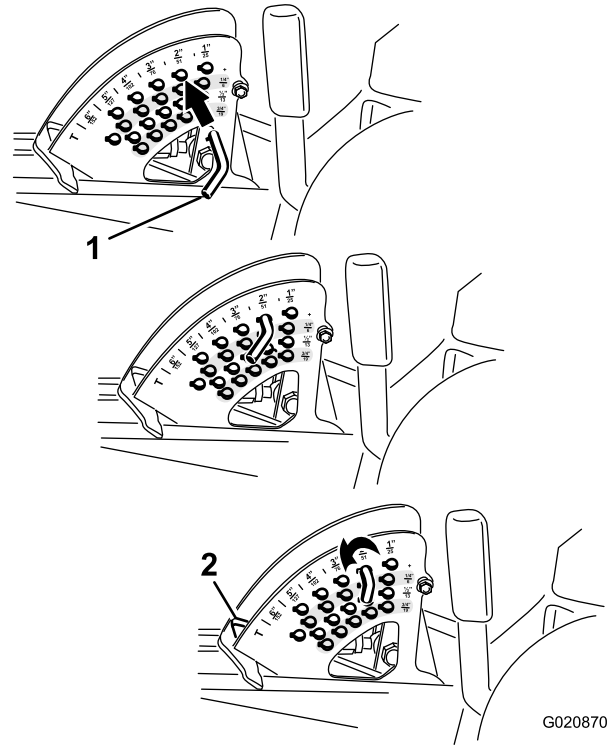

Figure 30
2. Rotate the stop pin until the roll pin in it lines up with the slots in the holes in the height-of-cut bracket and remove it (Figure 30).
3. Select a hole in the height-of-cut bracket corresponding to the height of cut desired, insert the pin, and rotate it down to lock it in place (Figure 30).
Note: There are 4 rows of hole positions (Figure 30). The top row gives you the height of cut listed above the pin. The second row down gives you the height listed plus 6 mm (1/4 inch). The third row down gives you the height listed plus 12 mm (1/2 inch). The bottom row gives you the height listed plus 18 mm (3/4 inch). For the 15.8 cm (6 inch) position, there is only 1 hole,